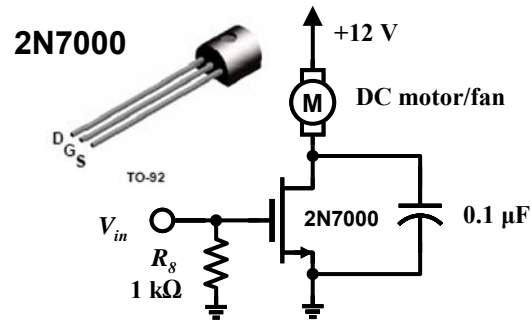

Figure 5-15 – Fan driver stage from Lab 4
- Lastly, add the DC fan and driver stage from lab 4 (repeated here in Figure 5-15). You should mount the fan on the protoboard using a piece of double-sided sticky foam in your kit. Mount the fan vertically at least an inch (8-9 holes) away from the edges normal to the fan blade (in the direction of air-flow). We are going to use this circuit in the final lab of the course and add a few components in this space.